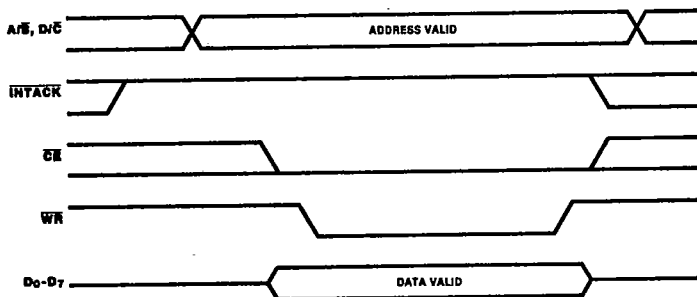

Figure 2. Write Cycle Timing
**Write Cycle Timing.** Figure 2 illustrates Write cycle timing. Addresses on  $A/\overline{B}$  and  $D/\overline{C}$  and the status on  $\overline{INTACK}$  must